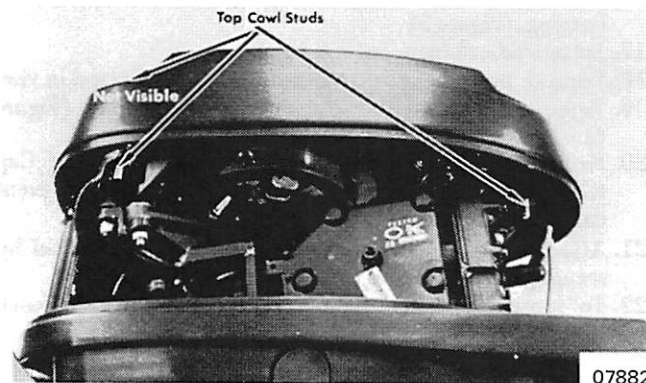

Figure 2. Removing Rewind on Merc 200
3. On Merc 200, remove 3 nuts and top cowl. (Figure 2)